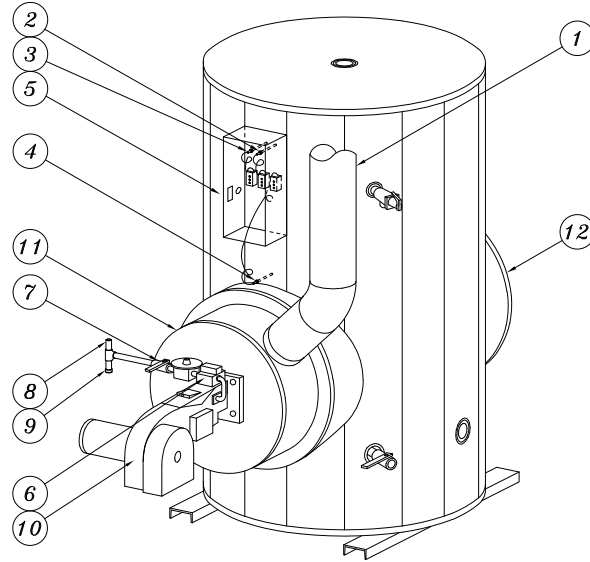

Figure 4-1
5. The tank has an opening suitable for inspection and cleaning use. (See Figures 4-1, 4-2 and 4-7.) The tank should be inspected for scale buildup through this opening. If scale is present, it can be loosened with a high-pressure stream of water. The smaller pieces can be flushed through the drain and the larger pieces removed by hand. The frequency of inspections will be determined by the rate of scale buildup. We recommend 30-60 day intervals.